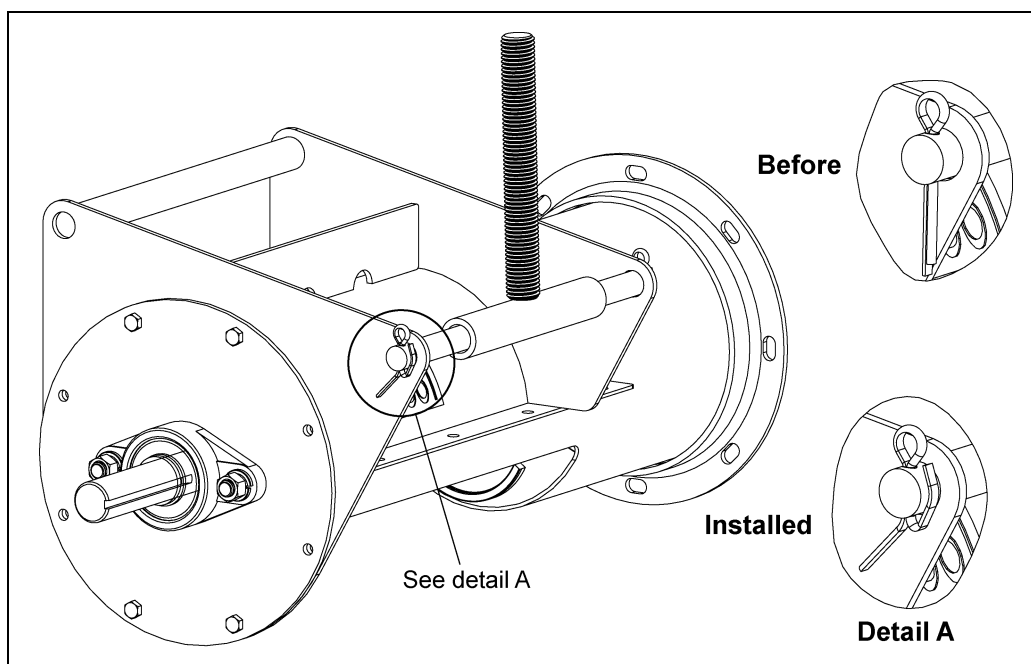

Figure 4F
3. With the cotter pins in the pivot rod, bend one tab of the cotter pin back so that it touches the pivot rod. Bend the other tab of the cotter pin away from the first tab. (See Figure 4F.)